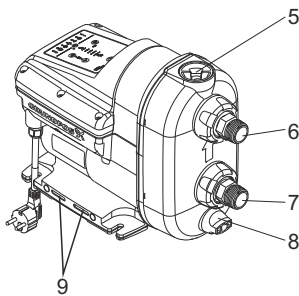

Fig. 18 SCALA pump
5. Gradually open and remove the priming plug. See fig. 18 (pos. 5).
6. Remove the drain plug and drain the pump. See fig. 18 (pos. 8).
7. Unscrew the union nut holding the inlet connection. See fig. 18 (pos. 7). Depending on the installation type, it may be necessary to remove the pipes from both the inlet and outlet connections.
5. Gradually open and remove the priming plug. See fig. 18 (pos. 5). The plug and non-return valve are one unit.